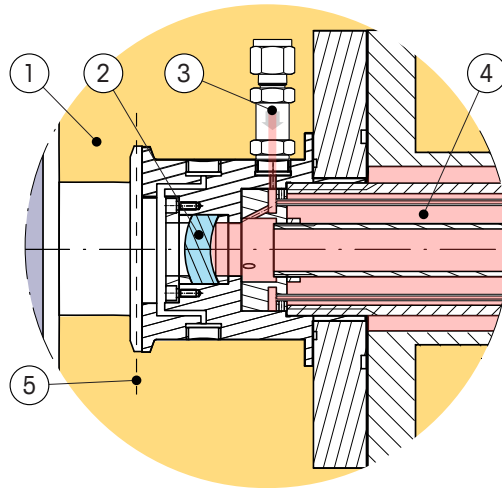

Figure 65 The GPro 500 Interface between Zone 0 and Zone 1
- 8 For detailed cross section view – see Figure 65 (The GPro 500 Interface between Zone 0 and Zone 1) on page no 103